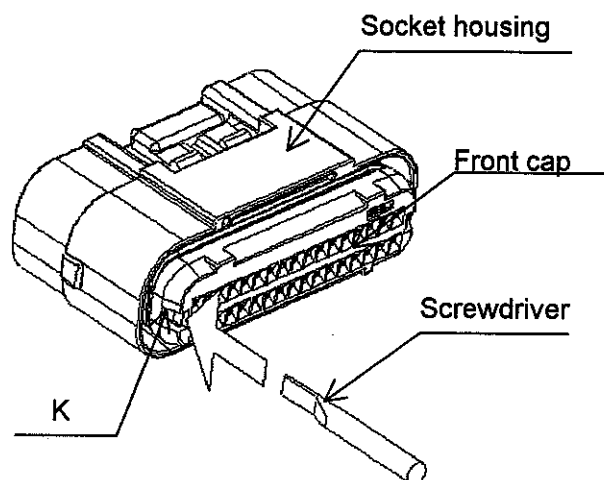

Fig.23 Front cap release method
- ① Insert a precision screwdriver with a width of about 2mm into the gap of the lock "K" (on right or left sides) shown in Fig. 23, and lightly push in the tip.
♦ When you use a screwdriver, do not insert it into areas other than the "K" shown in Fig.23, and do not scratch both socket housing and contact.